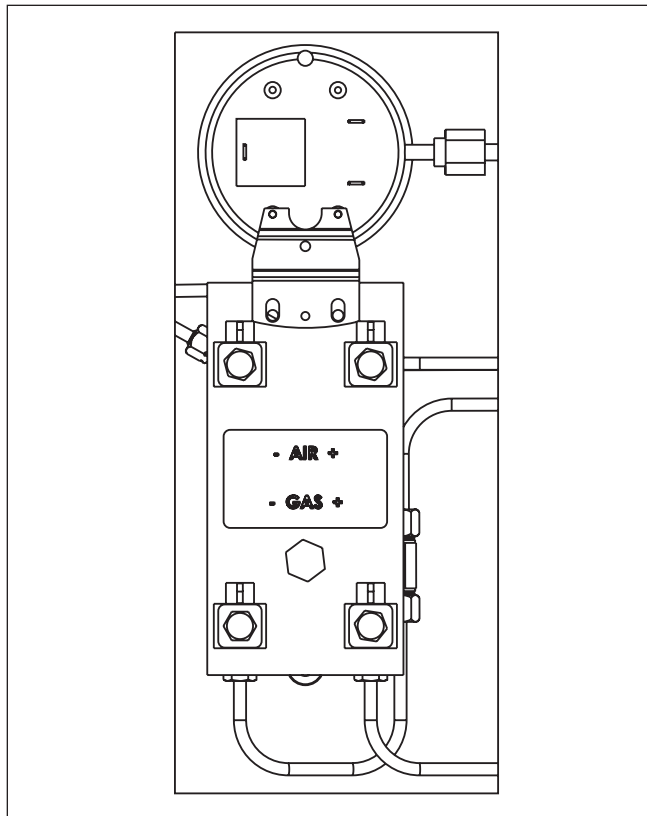
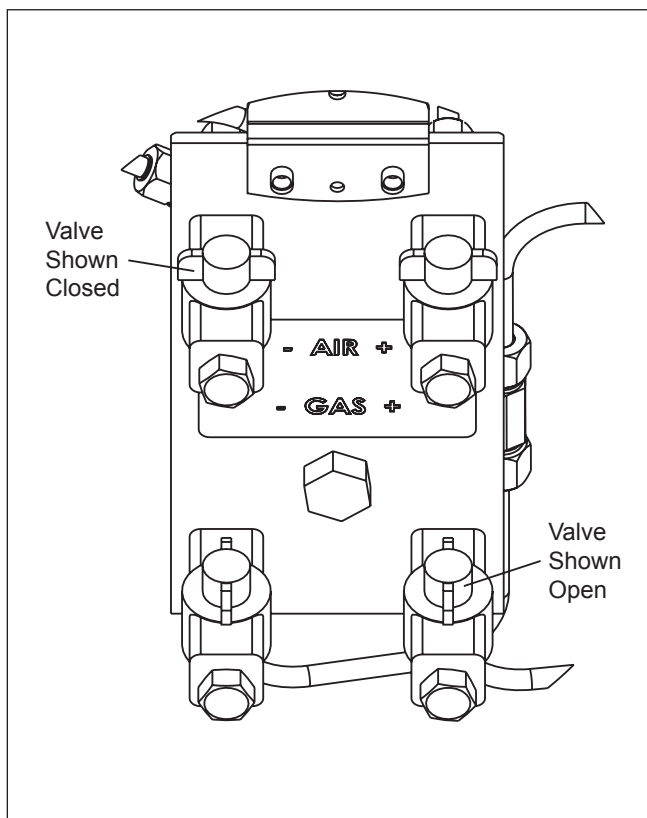

Figure 25 - Gas/Air Test Panel
Figure 26 - Test Panel Valves
4. There is a gas/air test panel to the left of the control panel, at the front of the unit (see Figures 25 and 32). Ensure that all four valves on the test panel are closed (see Figure 26).